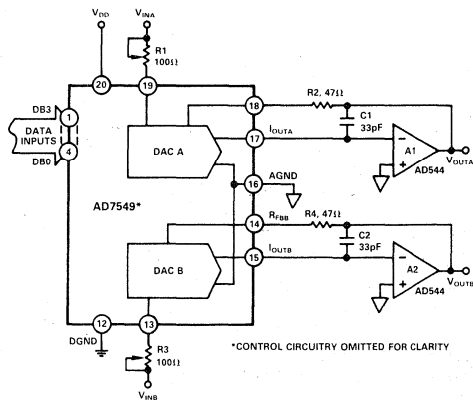
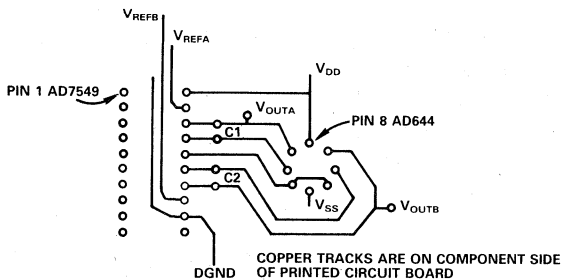

Figure 2. AD7549 Unipolar Binary Operation
Figure 4. Suggested Layout for AD7549 with AD644 (Dual Op Amp)
Figure 2 shows the circuit diagram for unipolar binary operation. With an ac input, the circuit performs 2-quadrant multiplication. The code table for Figure 2 is given in Table II.
Table II. Unipolar Binary Code Table for Circuit of Figure 2
**Output Offset:** CMOS D/A converters in circuits such as Figures 2 and 3 exhibit a code dependent output resistance which in turn can cause a code dependent error voltage at the output of the amplifier. The maximum amplitude of this offset, which adds to the D/A converter nonlinearity, depends on  $V_{OS}$  where  $V_{OS}$  is the amplifier input offset voltage. To maintain monotononic operation, it is recommended that  $V_{OS}$  be no greater than  $(25 \times 10^{-6})(V_{REF})$  over the temperature range of operation. Suitable op amps are AD644L, AD517L and AD544L. The AD517L is best suited for fixed reference applications with low bandwidth requirements: it has extremely low offset ( $50\mu V$ ) and in most applications will not require an offset trim. The AD544L has a much wider bandwidth and higher slew rate and is recommended for multiplying and other applications requiring fast settling. An offset trim on the AD544L may be necessary in some circuits.
**Feedthrough:** The dynamic performance of the AD7549 depends upon the gain and phase stability of the output amplifier, together with the optimum choice of PC board layout and decoupling components. A suggested printed circuit layout for Figure 2 is shown in Figure 4 which minimizes feedthrough from  $V_{REFA}$ ,  $V_{REFB}$  to the output in multiplying applications.